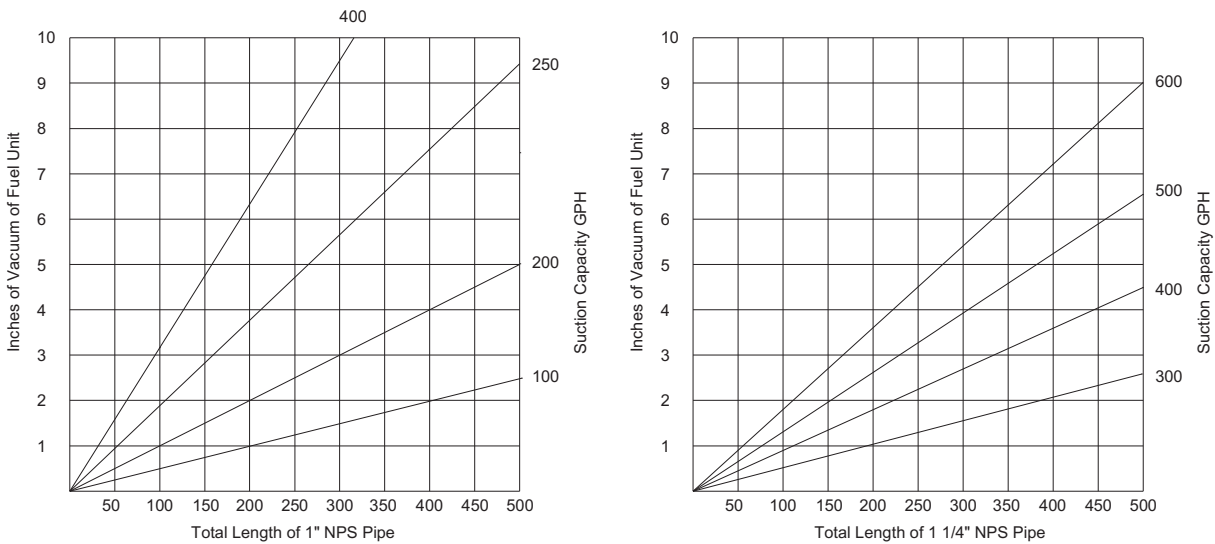
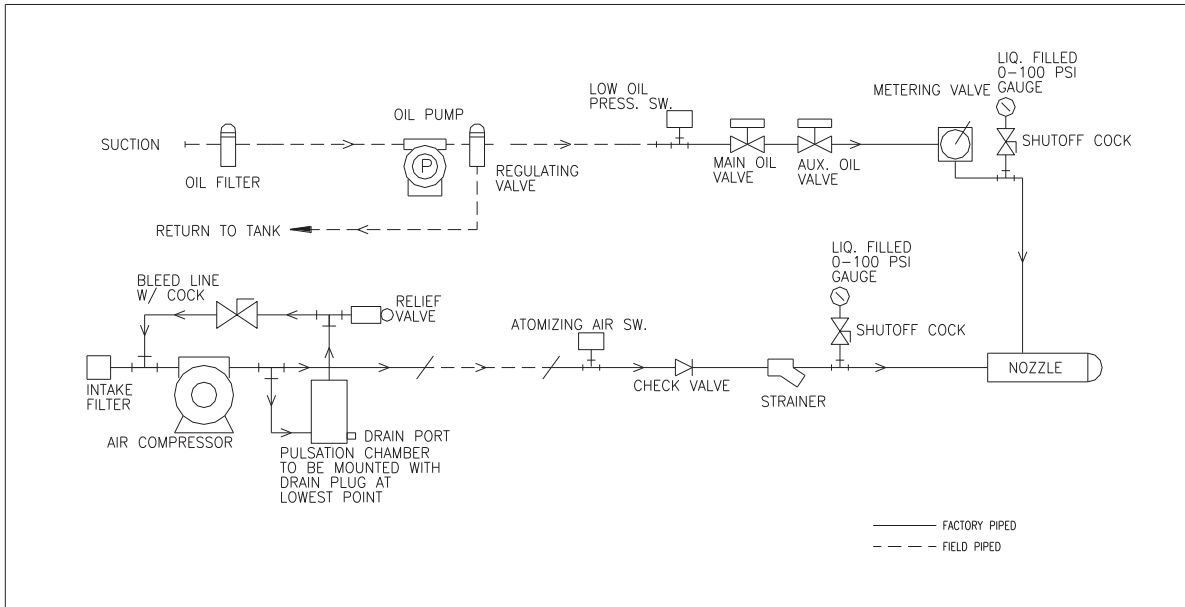

Figure 4: Oil Line Sizing
Figure 5: Oil Piping Details
- 2.2.9 Refer to Figure 5 for typical fuel pump oil piping connection information. Further information relating to burner oil piping can be found in Table 3 and Figure 4.
- 2.2.10 It is very important to properly size the oil suction line, and oil filter, to provide fuel flow to the burner without exceeding 10" suction pressure (vacuum) at the oil pump suction port. The method to properly size the fuel pump supply line is outlined below (Figure 4).
- 1) Check oil pump GPH Suction Capacity shown in Figure 4, Oil Line Sizing.
- 6) Add the vacuum determined from items 4 and 5 together to determine total inches of vacuum.
- 10) A Rule of Thumb to determine total vacuum for suction line sizing is to add 10% to vacuum determined from Figure 4 calculations.